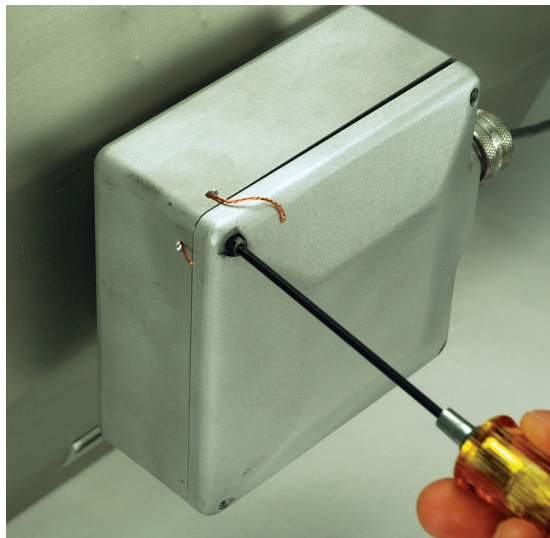

Fig. 3.2 Removing the Cover
1. Clip the seal wire from the corner of the housing. Remove the four screws and cover (Figure 3-2).